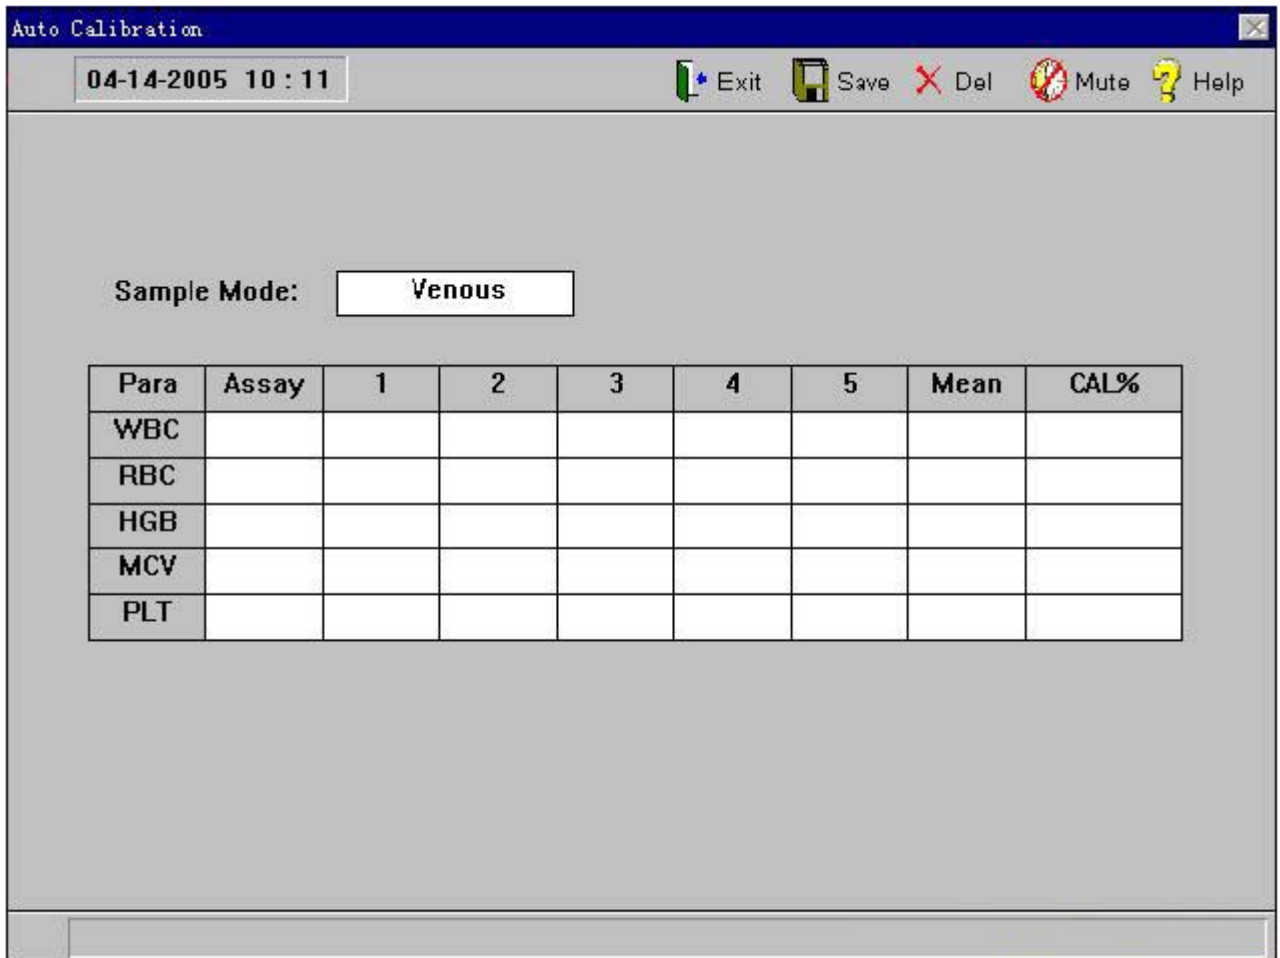

Figure 5-2
- a) In the blood cell analyzer window, press the right key of the mouse, select **“Auto Calibration”** in the menu. The instrument enters the auto calibration window, as shown in figure 5-2.